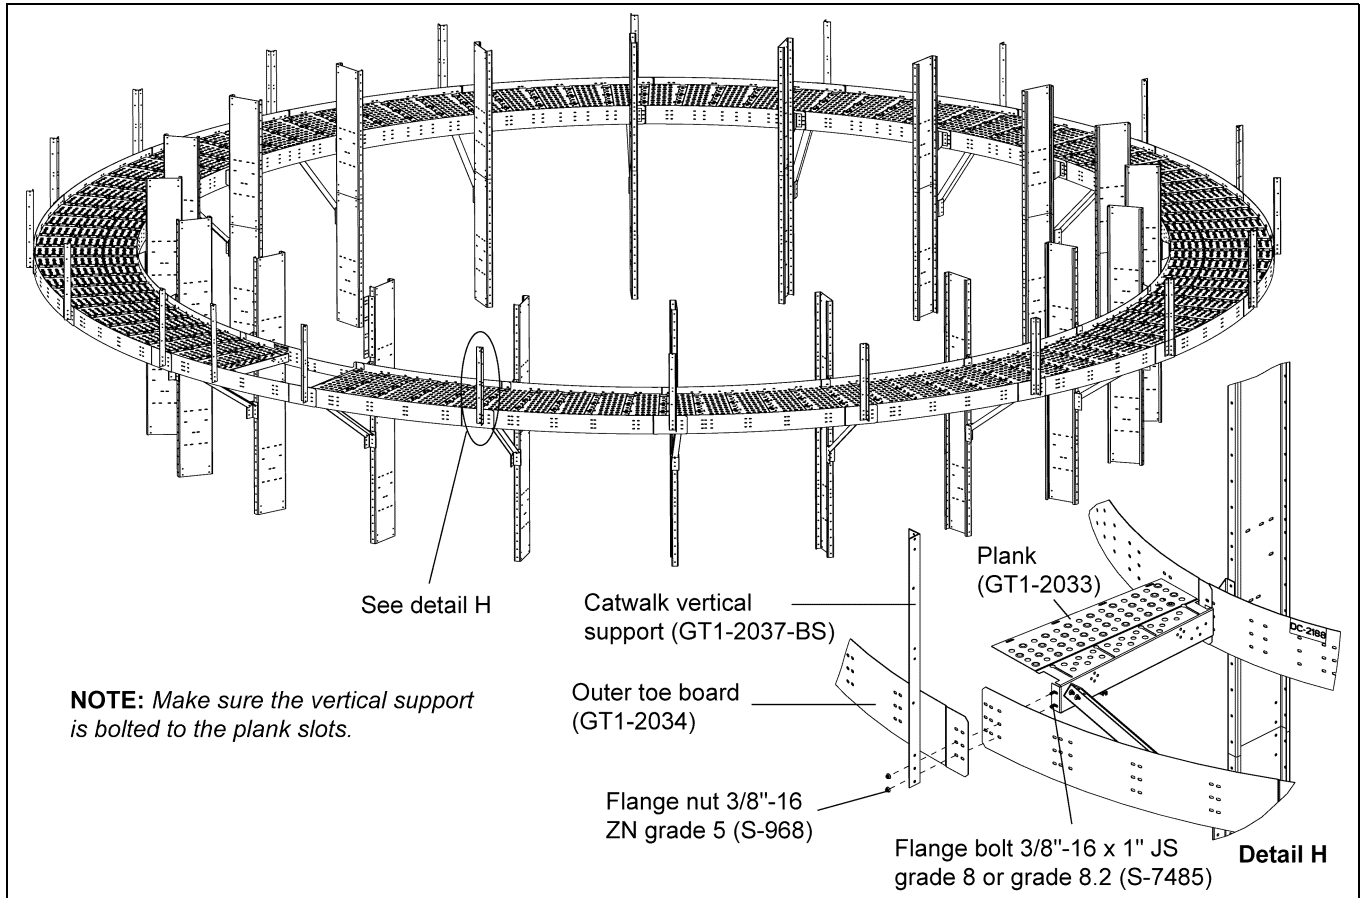
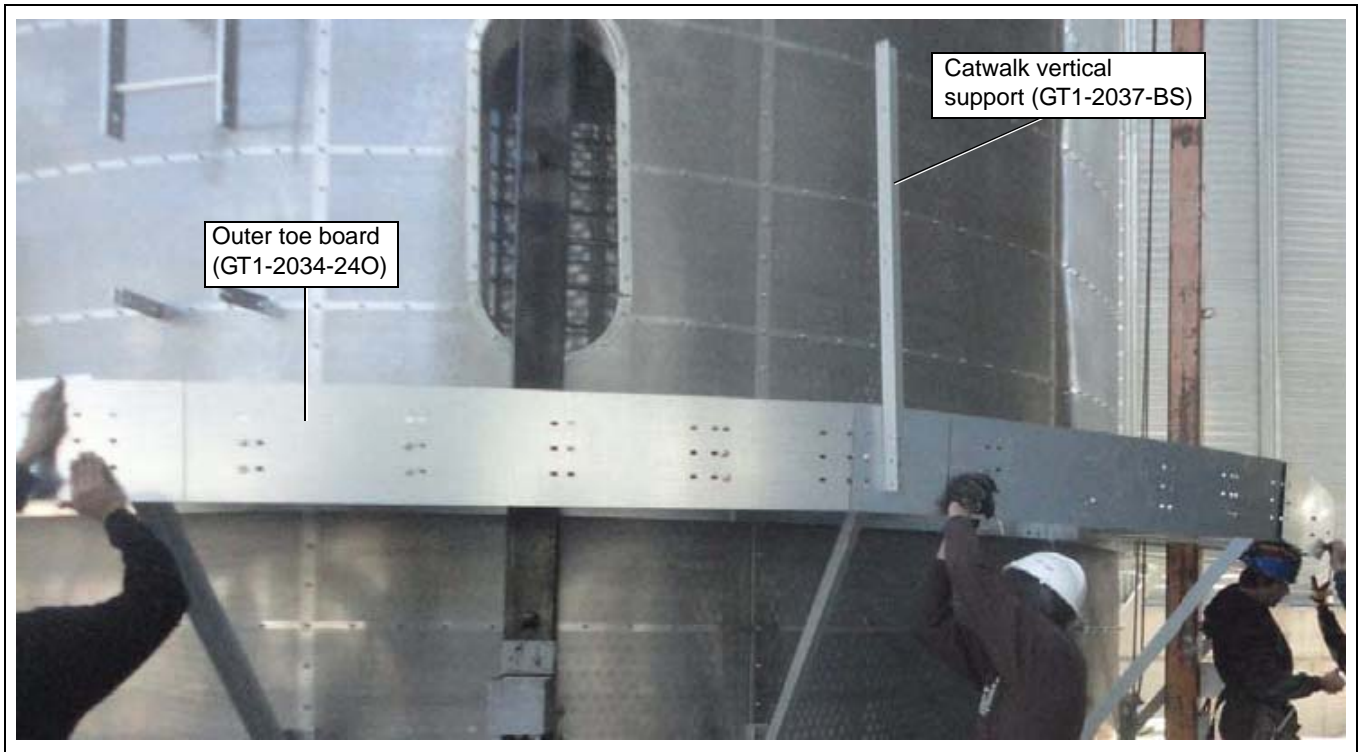

Figure 4R
Figure 4T
1. Install all the outer toe boards (GT1-2034-240) to the planks (GT1-2033). (See Figure 4R.)
2. When installing the outer toe board with planks, install the catwalk vertical support (GT1-2037-BS) simultaneously at proper locations using 3/8"-16 x 1" JS grade 8 or grade 8.2 bolts (S-7485) and 3/8"-16 ZN grade 5 nuts (S-968). (See Figure 4R and Figure 4T on Page 25.)